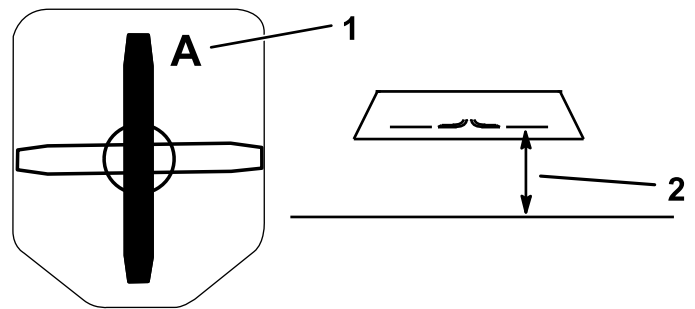

Figure 35
2. From a level surface, measure the distance to the cutting edge at position A of the blade (Figure 35).